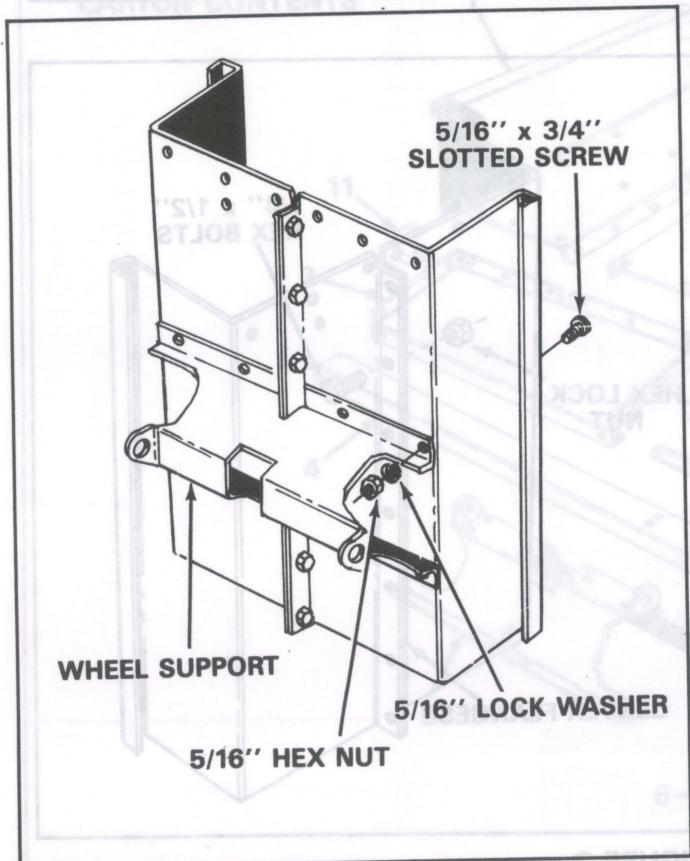

FIGURE 3
- Position the wheel support in place on the bottom of cart. See figure 3.
- Assemble wheel support to cart with eight $5/16''$ x $3/4''$ slotted head screws, $5/16''$ lock washers and $5/16''$ hex nuts. See figure 3. Heads of screws go to the inside of cart and should be tightened at this time.